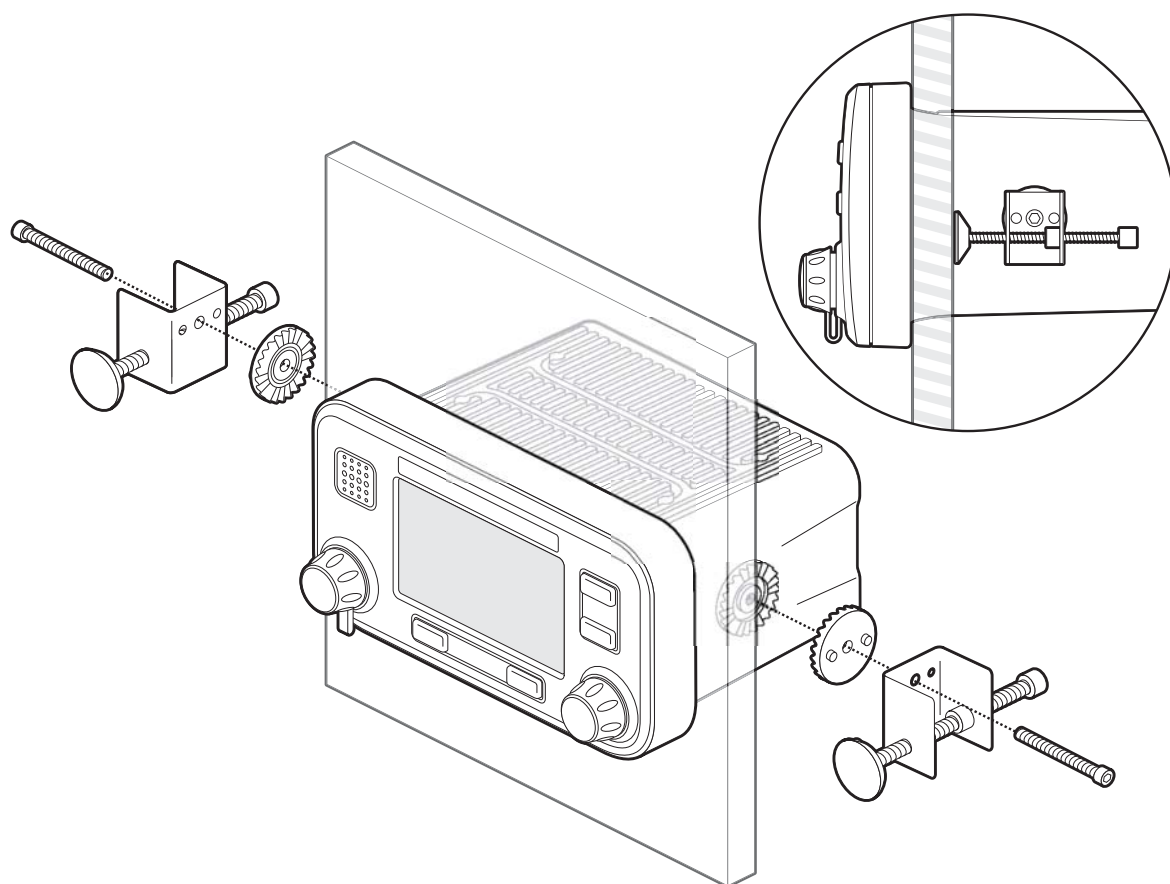

Figure 36 Panel mounting the AIS transceiver
- The transceiver is supplied with panel mount clamps for flush mounting through an instrument panel. Please refer to Figure 36 for guidance. Access behind the panel is required when using this mounting option.